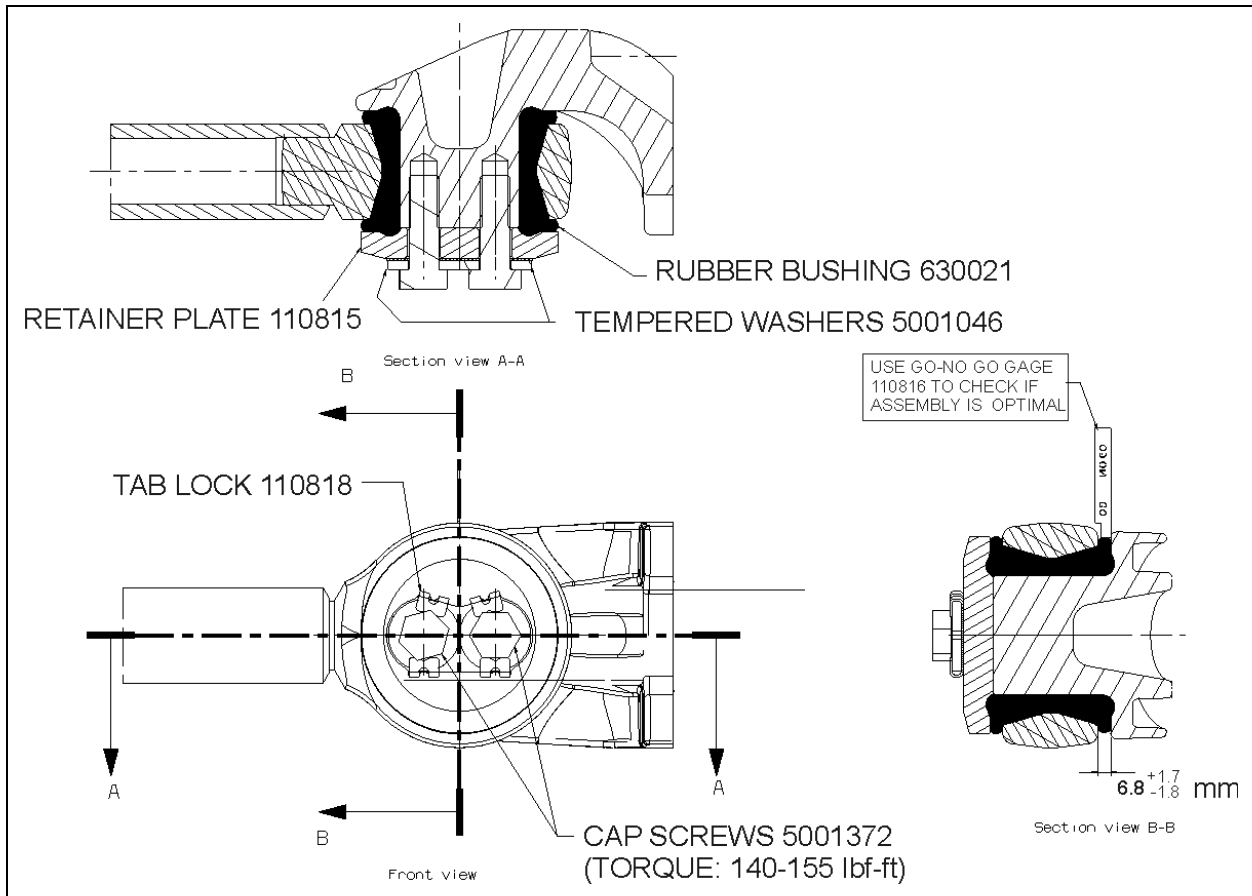
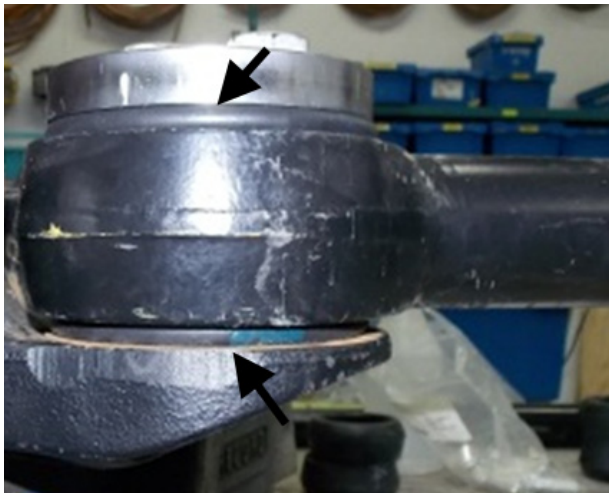

FIGURE 10
FIGURE 11 - STILL ACCEPTABLE
- Inspect the final installation. **Appraise the rubber bulges on each side of both bushings. They should be equal and similar** (see figures 11 & 12). If the dimension is in question use the go-nogo gauge # 110816 as illustrated in figure 10. If the rubber bulges are too dissimilar, unscrew and reposition the radius rod. Tighten again as previous described.